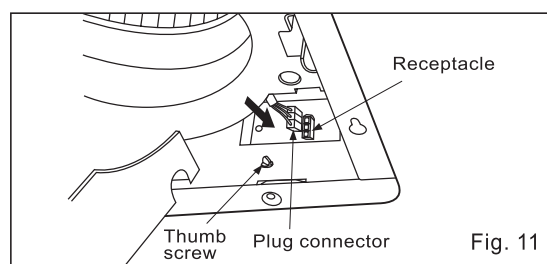
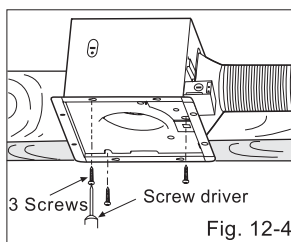

Fig. 11
Fig. 12-4
7. Plug connector to receptacle. (Fig. 11)
8. Secure the blower. (Fig. 12-4) and plug connector to receptacle (Fig. 11)